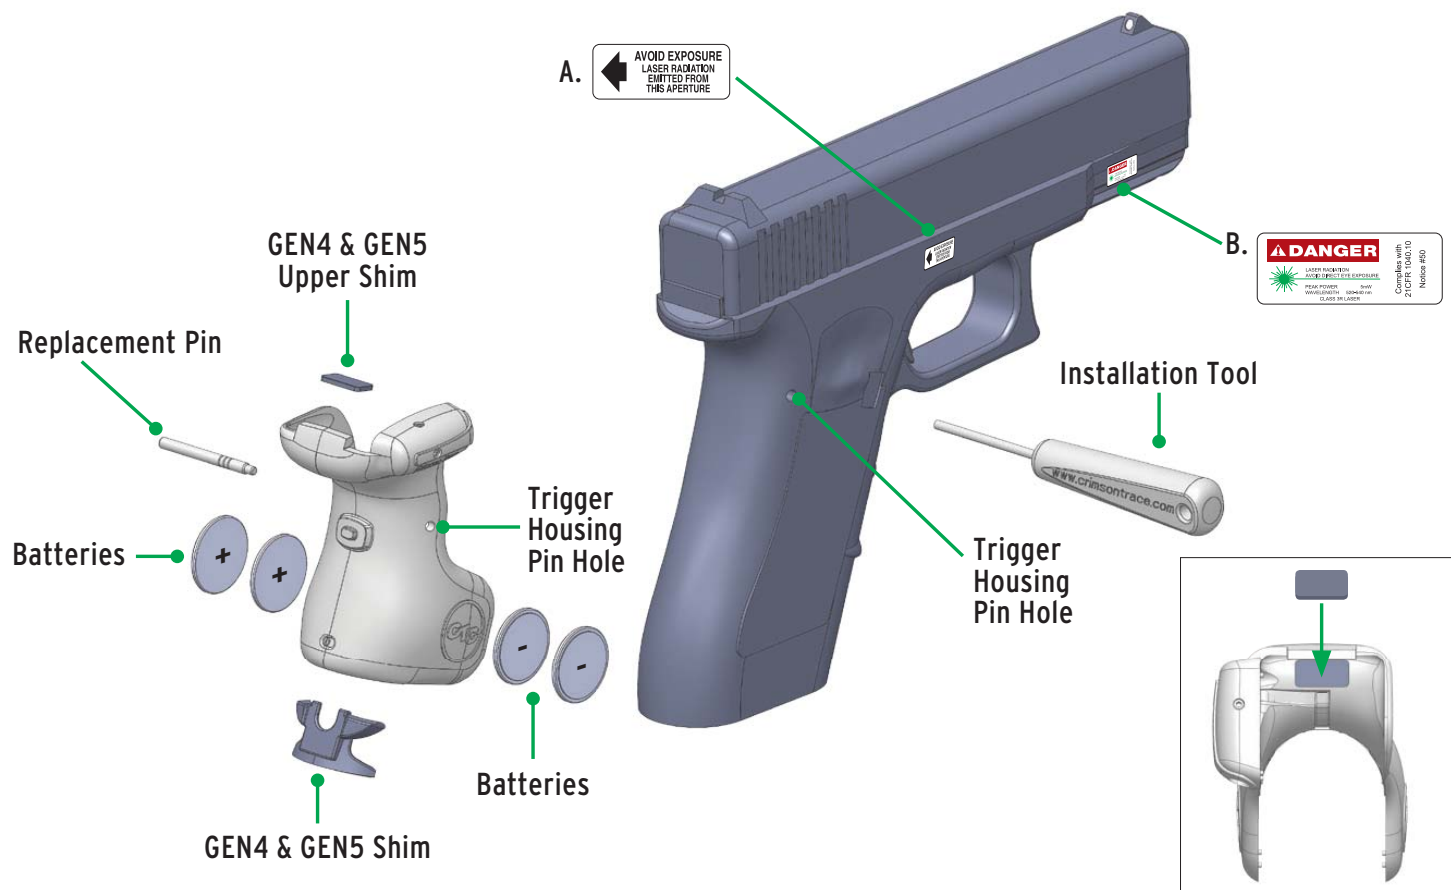

FIGURE 1
5. GEN4 and GEN5 models will require 2 shims. Remove the film from the upper shim and attach to upper side of grip. (See FIGURE 1). The lower Crimson Trace shim will slide into place at the inside base of the grip.